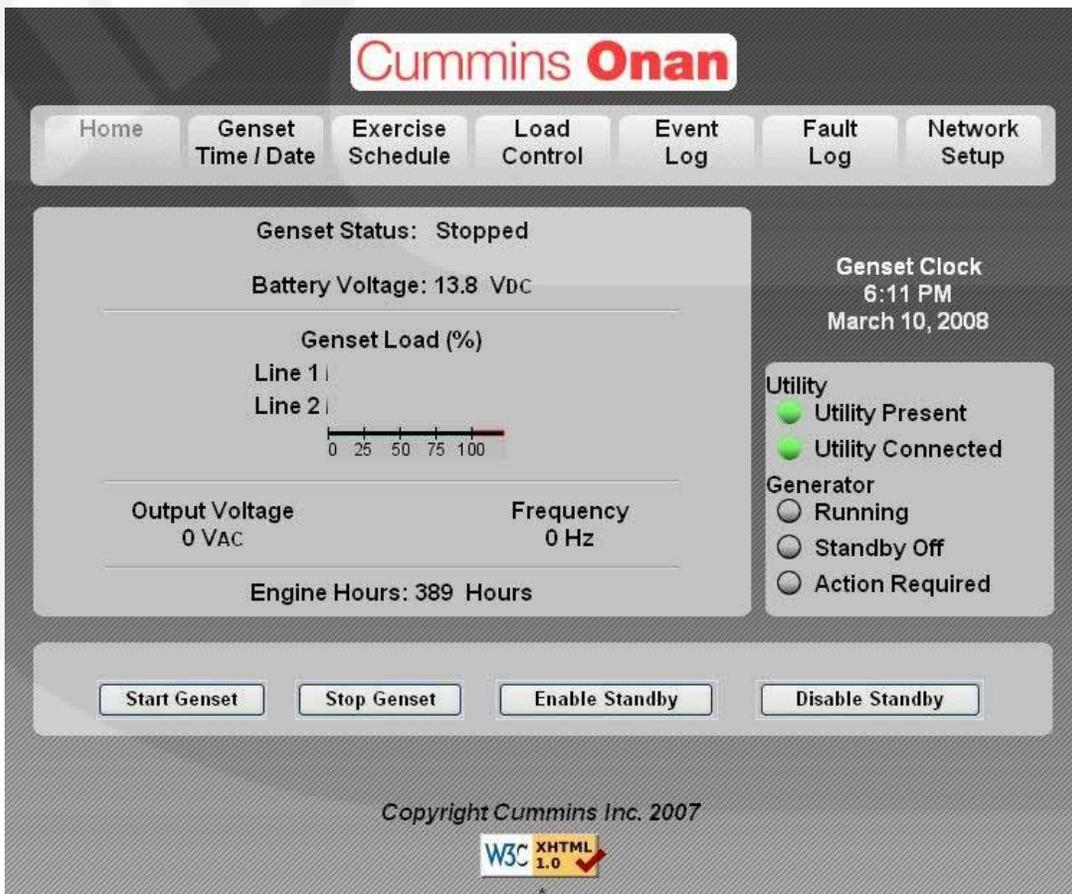
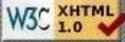

FIGURE D-3. GENERATOR SET HOME PAGE
FIGURE D-4. NETWORK SETUP – PAGE 2
3. Verify that the alert level is set to “All Events” (see Figure D-4). To verify that your generator set can send emails, select “Disable Standby” (see Figure D-3) and wait several minutes to verify that you did receive an email. Then select “Enable Standby” and wait a few more minutes to verify that you did receive a second email.
6. Check to see if you are using an email account capable of using port 25 with plain authentication SMTP server setup (see Figure D-4). If necessary, obtain an email account capable of using port 25 with plain authentication SMTP and enter detail into the network setup screen (see Figure D-4).
7. Verify that the domain name is included in the user name field of the Network Setup screen shown in Figure D-4 (i.e. username@domainname).**